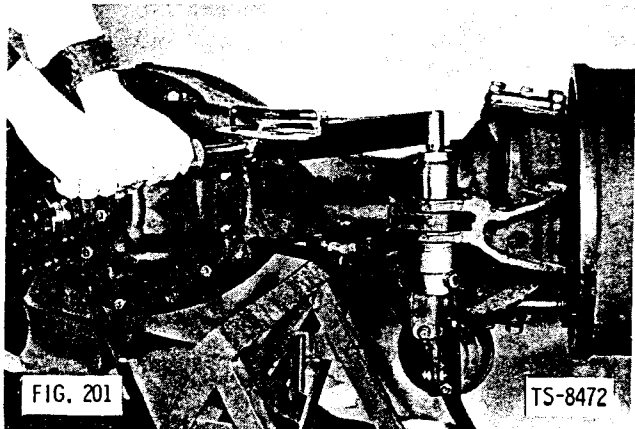

FIG. 201
43. Follow the same procedure as described above to assemble opposite end of axle. Install tie rod with bolt and nut. Torque nut to 300 ft.-lbs. (Fig. 201).